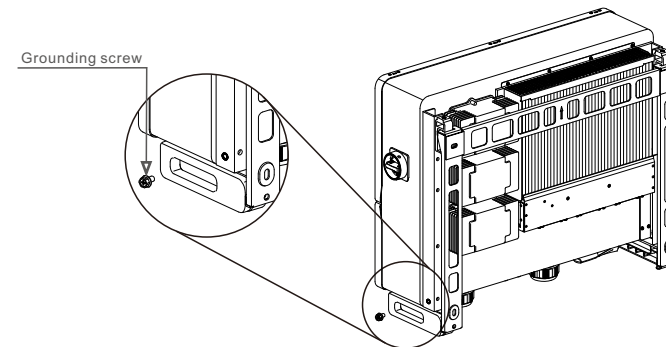

Figure 3.17 Fixed cable
- 6) Connect the grounding cable to the grounding point on the heat sink, and tighten the grounding screw, Torque is 7.3-8.8 ft.lbs(see figure 3.17).